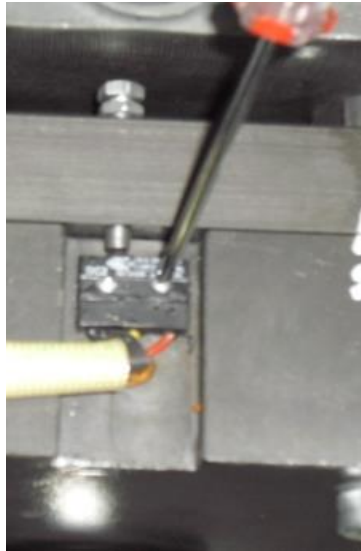

Figure 28: Secure brake switch
3. Install the brake switch on the brake body by tightening the screws M2x10 using a Phillips head screw driver. Use torque screw driver to tighten the bolt to 1.8 in-lb, then apply Loctite 480 or equivalent between the screw heads and the switch body. See Figure 28.